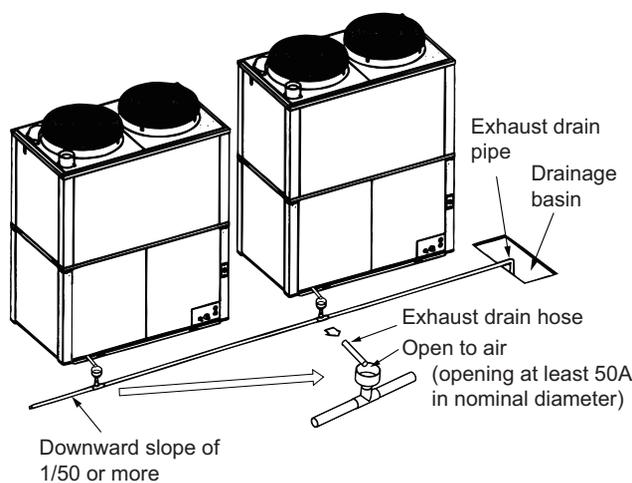

Fig. 11 Draining the exhaust into a drainage basin
(3) Exhaust drain pipe work
- If connecting the outdoor unit's exhaust drain to a covered drainage basin or gutter, or draining multiple outdoor units to the same location, be sure to configure the pipes (as shown in Fig. 11) so that exhaust gases are discharged into open air. (Make sure that the opening in the receiving drain pipe is at least 50A in nominal diameter.) Exhaust gases flowing into the building or indoor/outdoor units may result in poisoning or corrosion of the unit.
- Slope the drain pipe at a gradient of 1/50 or more, and do not taper the pipe diameter (Fig. 11, 12). In addition, do not create any traps or peaks in the pipe.